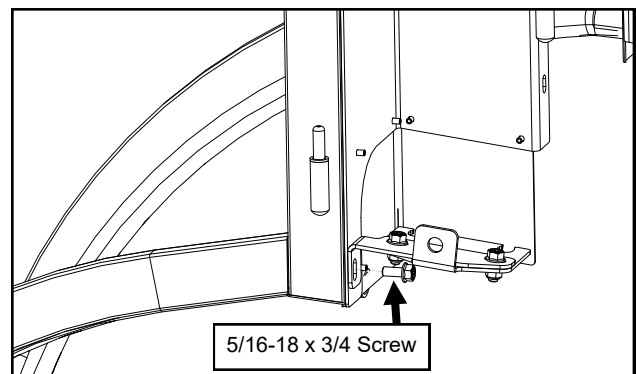

Fig. 6.3 (Rear Mount to Side Frame Fastener)
6.3 Reinstall the rear mount to side frame bolt as shown in Figure 6.3.